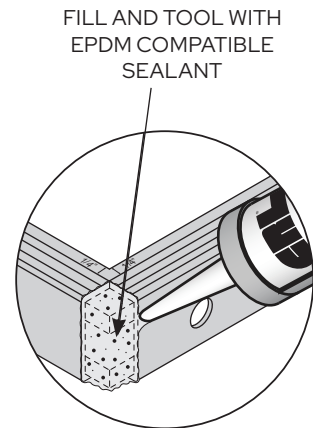

FIG. 3
3. Fill and tool corners with EPDM compatible sealant. (FIG. 3)